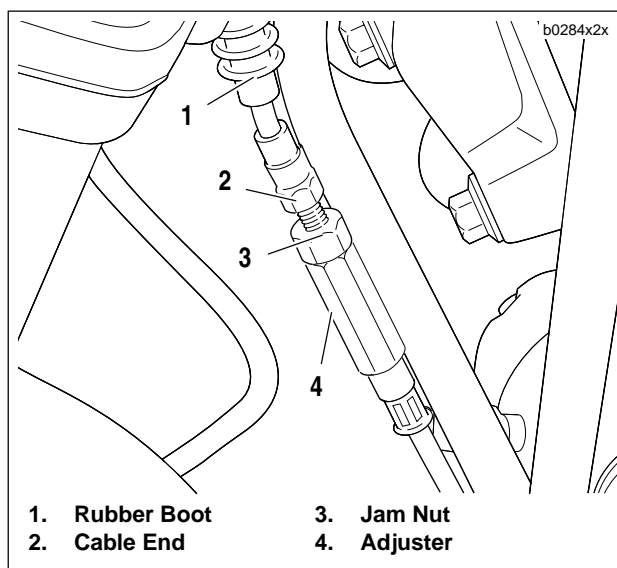
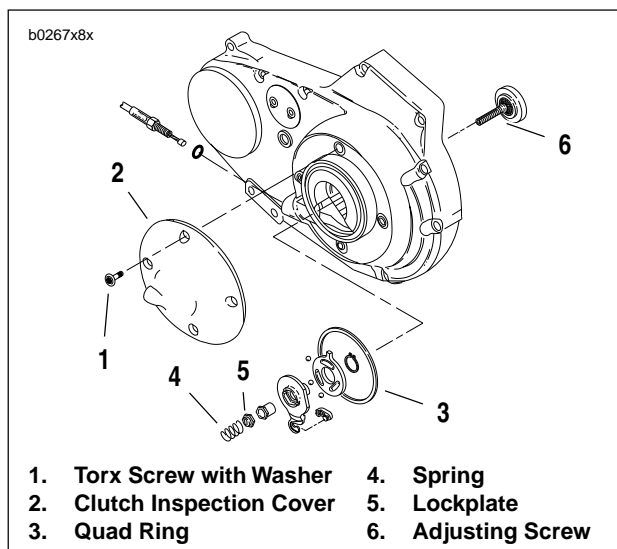

Figure 1-18. Clutch Cable Adjuster Mechanism
Figure 1-19. Clutch Release Mechanism
2. See Figure 1-18. Slide rubber boot (1) upward to expose adjuster mechanism. Loosen jam nut (3) from adjuster (4). Turn adjuster to shorten cable housing until there is a large amount of free play at clutch hand lever.
3. See Figure 1-19. Remove four TORX screws with washers (1) from clutch inspection cover (2). Remove clutch inspection cover from primary cover. Do not damage or dislodge Quad ring (3) from primary cover.
Quad ring removed from primary cover for illustrative purposes only in Figure 1-19.
- b. See Figure 1-18. Set free play by turning adjuster (4).
- c. Tighten jam nut (3) against adjuster (4).
- d. Slide boot (1) over cable adjuster mechanism.
8. See Figure 1-19. Install clutch inspection cover (2) using four TORX screws with washers (1). Tighten in a cross-wise pattern to 7-9 ft-lbs (10-12 Nm).